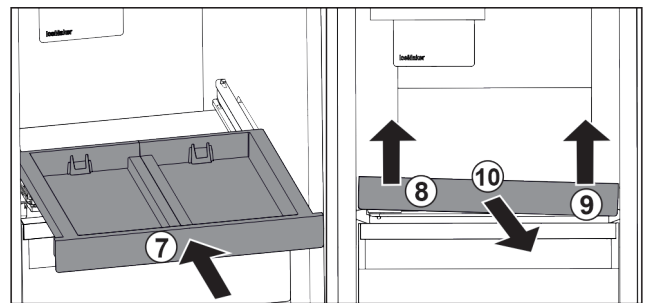

Fig. 98
- ▶ Slide in the pull-out board. Fig. 98 (7)
- ▶ Lift the pull-out board at the front left. Fig. 98 (8)
- ▶ Lift the pull-out board at the front right. Fig. 98 (9)
- ▶ Take out the pull-out board to the front. Fig. 98 (10)